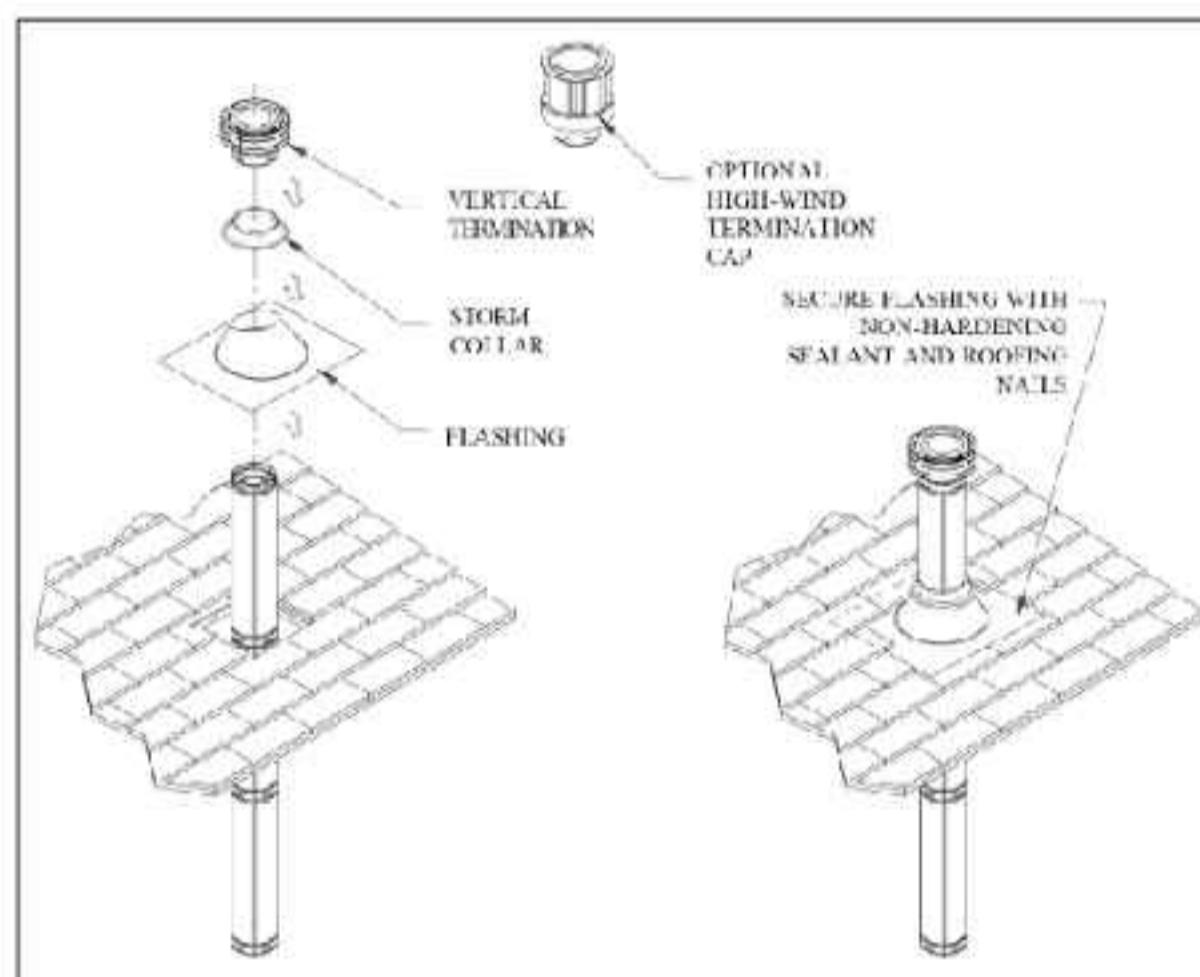

Figure 42: Installation of Flashing & Vertical Termination.
Step 6. Slip the flashing over the Pipe Section(s) protruding through the roof. Use a non-hardening sealant between the Flashing and the roof to prevent water leakage. Secure the base of the Flashing to the roof with roofing nails. Ensure the roofing material overlaps the top edge of the Flashing as shown in Figure 42. Verify that you have at least the minimum clearance to combustibles at the roofline.
Step 8. Slip the Storm Collar over the Pipe, and push it down to the top of the Flashing, as shown in Figure 42. Use the non-hardening sealant above and below the joint between the Storm Collar and the Pipe.